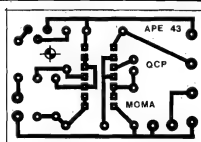

Fig. 5
- FIG. 5 - LAY OUT DO IMPRESSO DO MÓDULO MÃE (MOMA)